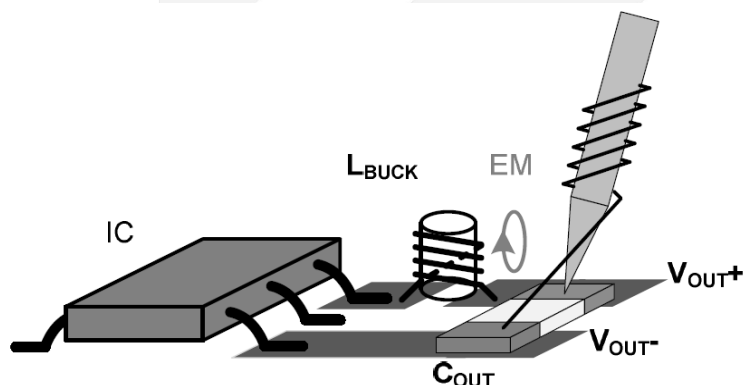

Figure 5. Recommended way to measure the output voltage ripple
A proper output ripple measurement should be done according to Figure 5 setup. Output voltage ripple should be measured across the output ceramic cap near the IC.
1. Remove the ground clip and head of the probe. Wind thin wires around the ground ring of the probe. Solder the end of the ground ring wire to the negative node of the C_{OUT} . Touch the probe tip to the positive node of the C_{OUT} . (Refer to Figure.5).
3. Change the probing direction to decouple the electromagnetic noise generated from the nearby buck inductor. (Refer to Figure.5)